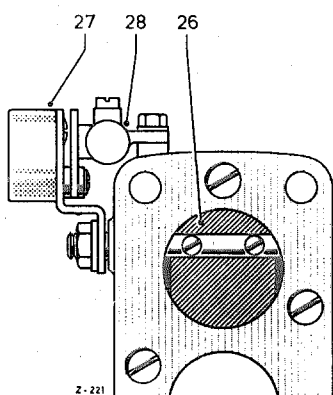

Fig. 07 — 0/2
Both stages of the carburetor are combined in one housing (Fig. 07 — 0/1). Throttle valve (23) of Stage 1 is located as usual in the lower part of the carburetor, set at an angle of 8°. Stage 2, however, has two throttle valves, set at an angle of 17°, the one (25) in the center section of the carburetor and the other (26) in the lower section. Throttle valves (23) and (25) of Stages 1 and 2 are coupled together by a linkage. The second throttle valve (26) of Stage 2 is not coupled to the other two. It is operated automatically by the pressure flow. The off-set shaft of the throttle valve is fitted with a lever, bearing a weight (27) (Fig. 07 — 0/2).
This weight keeps the throttle valve closed under normal conditions. It is only when a certain pressure, coupled with decreased pressure in the body of Stage 2, develops that the effect of the weight is overcome and this throttle valve, the so-called vacuum valve, opens. In order to prevent the vacuum valve from being forcibly opened by the centrifugal effect on narrow left-hand bends, the movement of the vacuum valve is neutralized via the valve lever by an oil shock-absorber (28) (see Fig. 07 — 0/2).